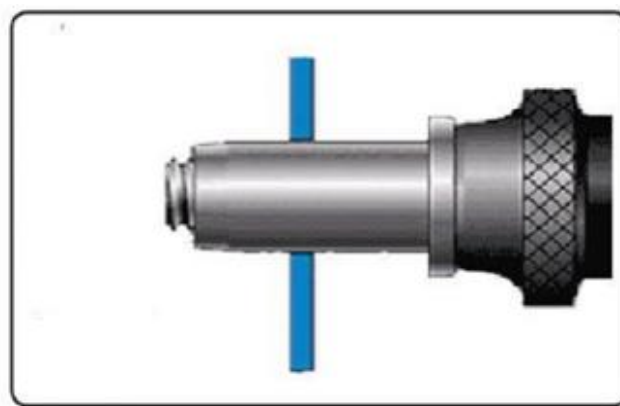

Fig. 2
2. Hold the rivet adapter (Fig. 2) with one hand, adjust the direction of rotation of the drill chuck head to the right, and as a result of the drill working, the jaws will move towards the drill. If the jaws do not move during the drill working, they should be pushed with a suitable tool. If the jaws are moved too far forward, it will not be possible to screw the rivet tip into the adapter. The rivet ends have different lengths depending on the diameter of the hole for inserting the rivet pin.